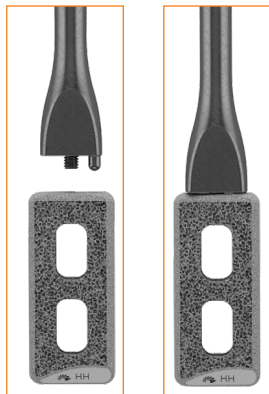

Figure 5a
- To release the **Interbody** from the **Inserter**, rotate the **Inserter** knob counterclockwise until the **Inserter** is removed (Fig. 5a&b).